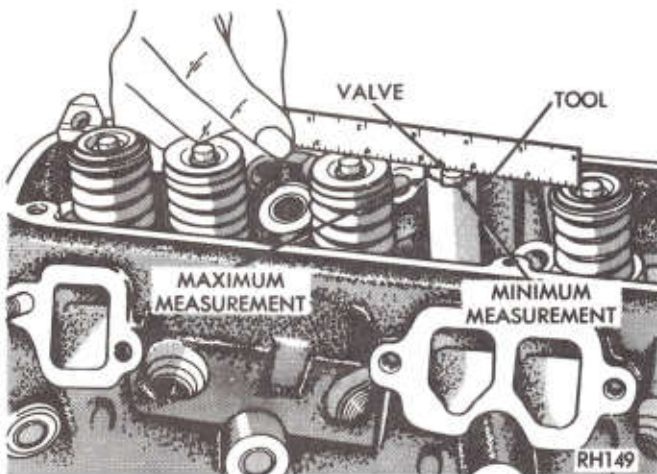

Fig. 20—Measuring Valve Stem Length with Tool C-396B
(1) Coat valve stems with lubrication oil and insert them in cylinder head.
(2) If valves or seats are reground, check valve stem height with Tool C-3968 (Fig. 20). If valve is too long, grind off the tip until length is within limits.